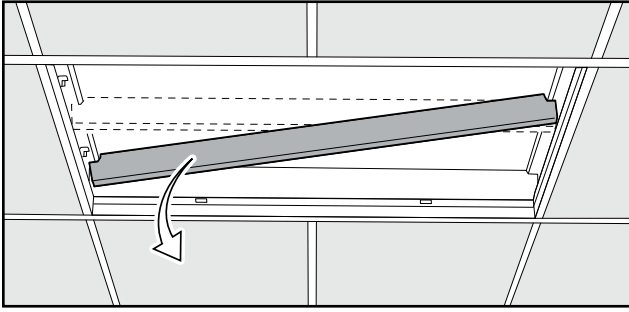

Figure 3.
3. If present, remove belly pan. If remaining troffer height is limited, remove ballast (Fig. 3).